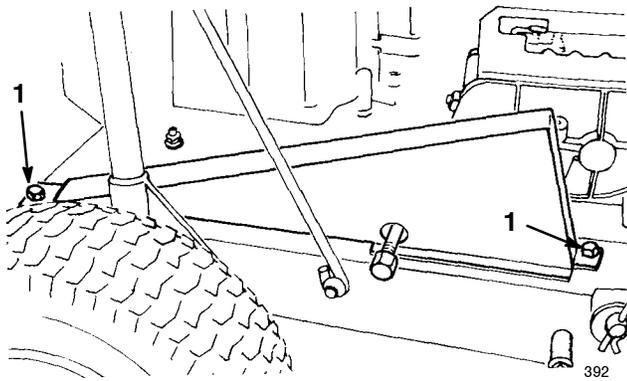

Figure 32
1. Remove the two screws securing the chain cover to the tractor chassis and remove the chain cover (Fig. 32).